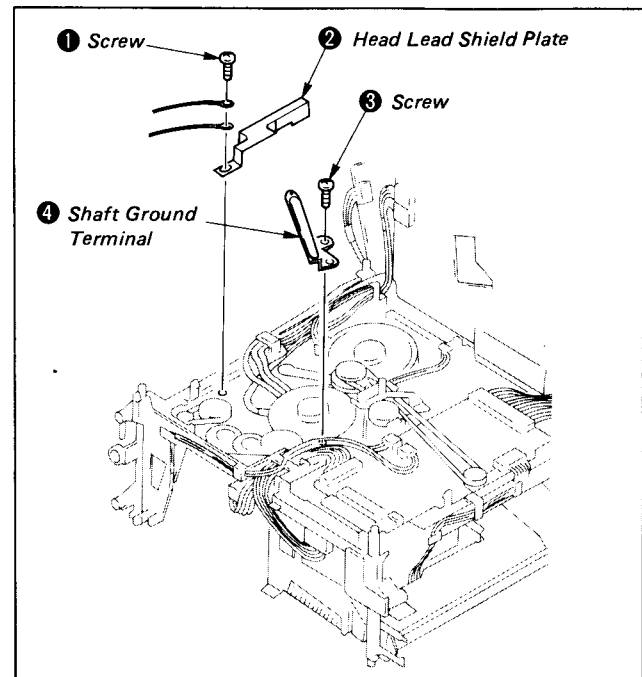
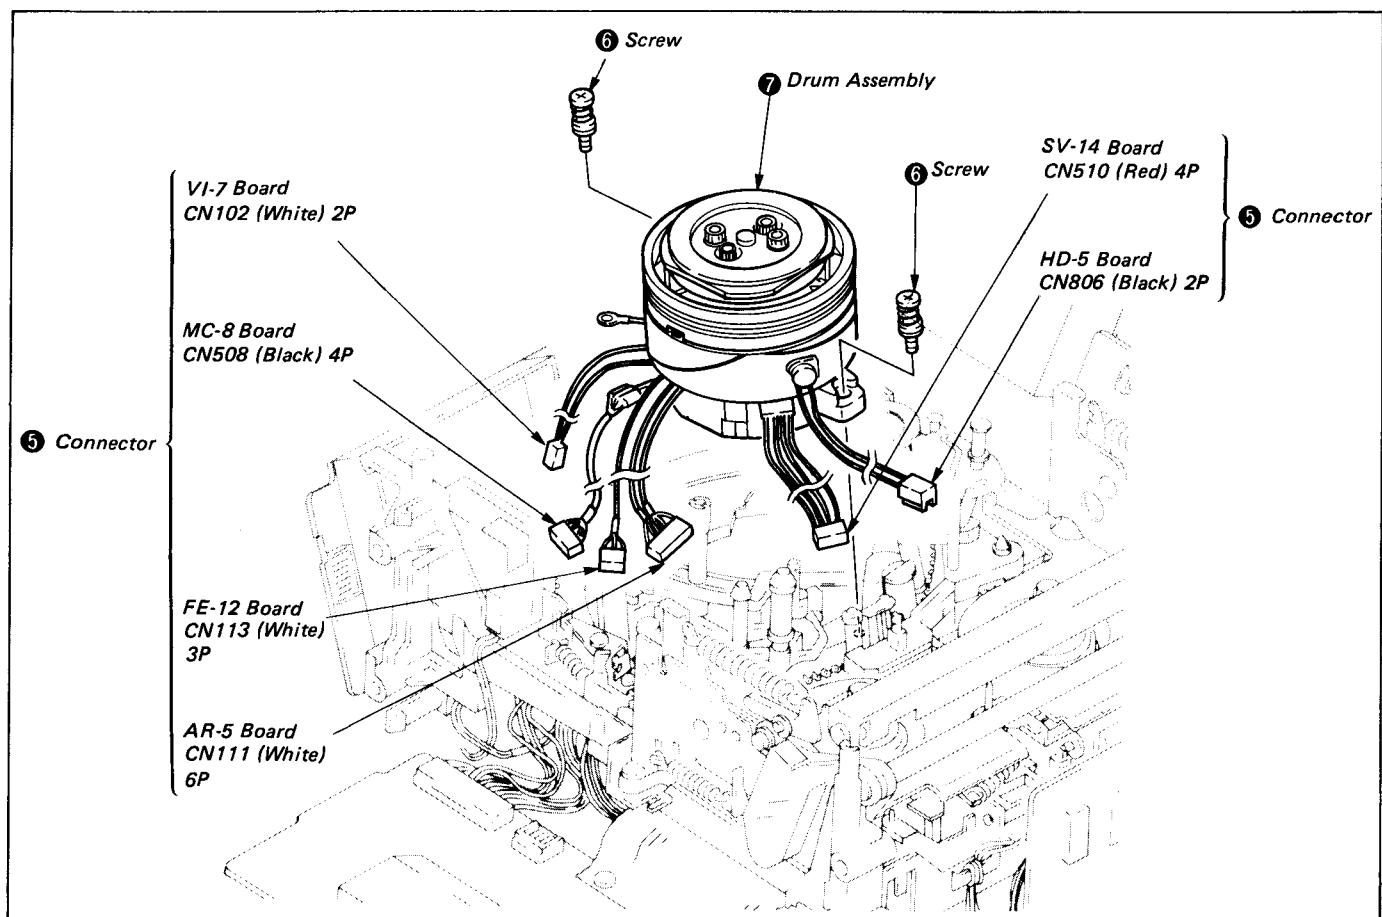

Fig. 1-53
Fig. 1-54
(See Fig. 1-53.)
- 4) Disconnect six connectors ⑤.
- 5) Remove two screws ⑥.
- 6) Remove the drum assembly ⑦. (See Fig. 1-54.)
- 1) Remount the drum assembly ⑦ and tighten two screws ⑥.
- 2) Connect six connectors ⑤. (See Fig. 1-54.)
- 3) Remount the shaft ground terminal ④ and tighten the screw ③.
- 4) Remount the head lead shield plate ② and tighten the screw ①. (See Fig. 1-53.)